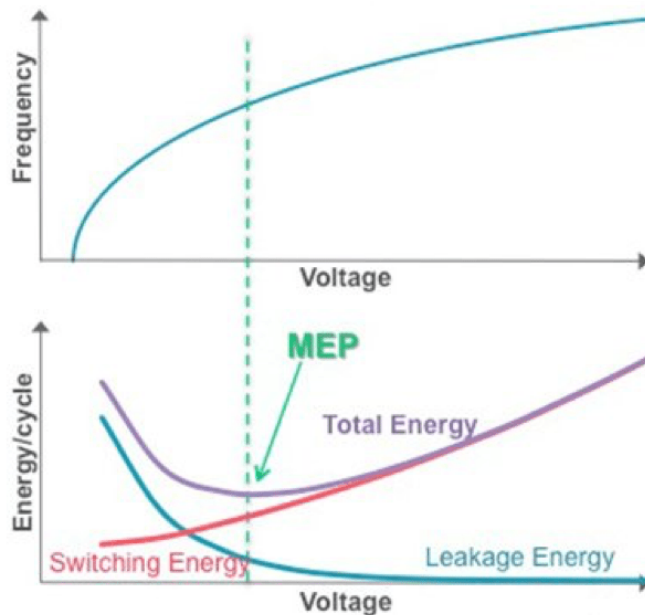

Figure 3: Energy (dynamic and leakage) vs Voltage
Total power is a combination of static or leakage power and dynamic power. As the voltage is dropped toward the transistor threshold voltage (V_t), switching power decreases but at the same time leakage current increases. This means the optimal combination between leakage and switching power has to be found as shown on Figure 3.
Near Threshold Voltage (NTV) will be selected in the voltage range offering the minimum of energy (see Figure 3) while keeping the functional domain working. NTV is an excellent power management technique and give very good results in term of Energy Efficiency (EE) as we can see on Figure 4. These results come from measurement made on Intel Pentium and we can notice that, for 0.45 V (near threshold value), EE efficiency reaches 5830 Mips per Watt, to be compared with EE at nominal voltage (1.2 V) of 1240 Mips/Watt. The first drawback can be seen on the same figure: at nominal voltage (1.2 V) the chip frequency reaches 915 MHz, whereas at NTV (0.45 V) it's only 60 MHz.